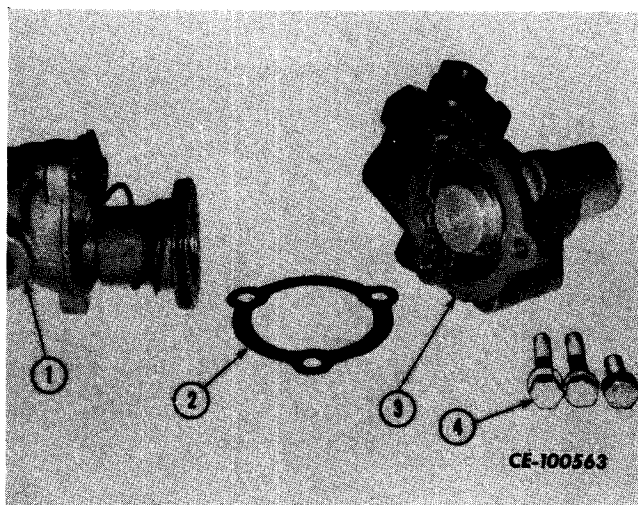
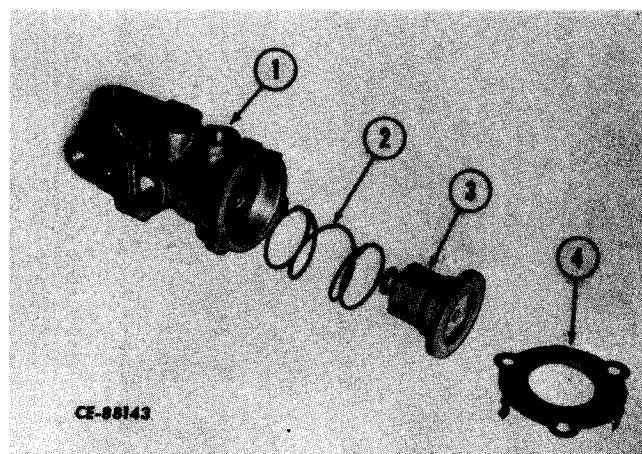

Figure 13-17
Figure 13-20
Punch mark section and body for assembly reference. Carefully remove hardware (4, Fig. 13-17) securing section (3) to body (1). Remove gasket (2).
BOTH VALVES - Depress primary piston assembly (3, Fig. 13-20) and remove retaining ring (4). Remove piston assembly and spring (2) from upper body (1).
RIGHT TREADLE VALVE - Insert spring (2, Fig. 13-20) and primary piston assembly (3) into upper body (1) and secure with retaining ring (4).
in section (1). Tighten plugs securely. Slide spring (8) onto spring seat of valve. Place spring seat (7) over spring and compress spring and seat. Install snap ring (6) while holding compressed spring and seat. Install spring (2, Fig. 13-20) and primary piston assembly (3) into valve body (1, Fig. 13-17). Position new gasket (2) on body. Align punch marks on body and section (3), compress spring and install hardware (4). Tighten cap screws evenly and securely.